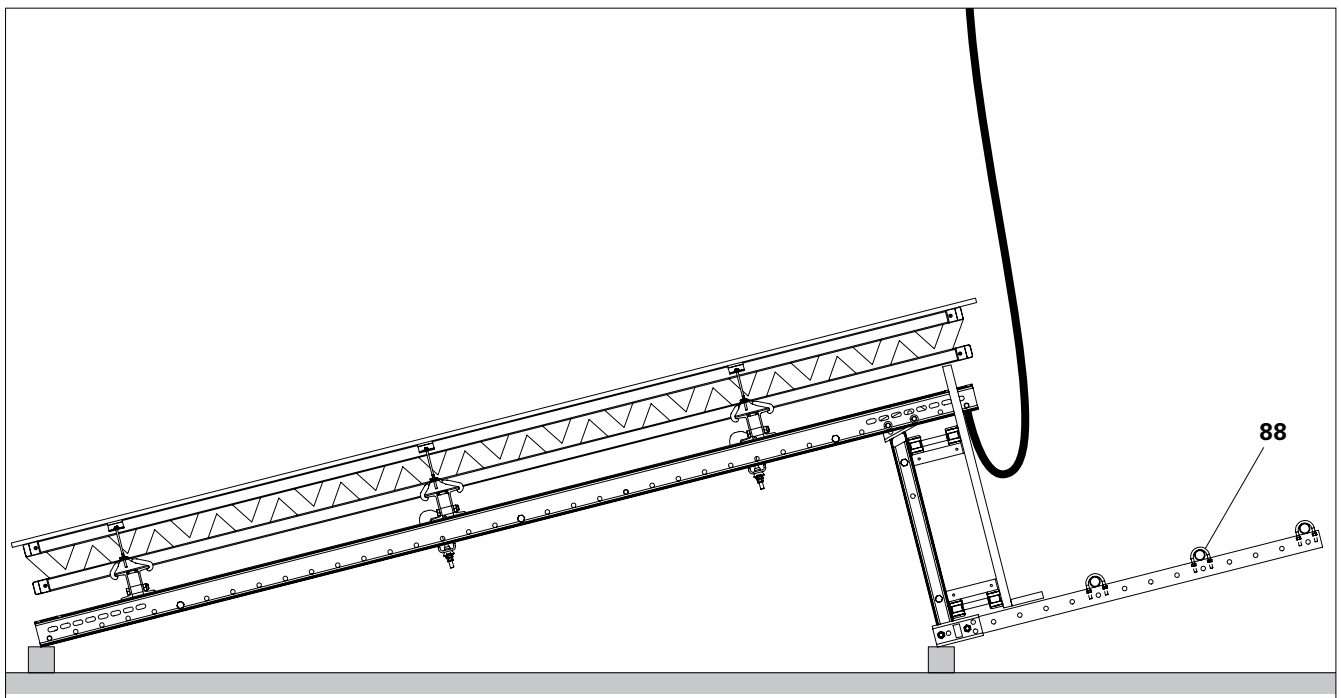

Fig. C1.12
8. Mount scaffold tubes (**88**) or handrail boards on the Guardrail Posts. See Section "Guardrails" on Page 48. (Fig. C1.12)